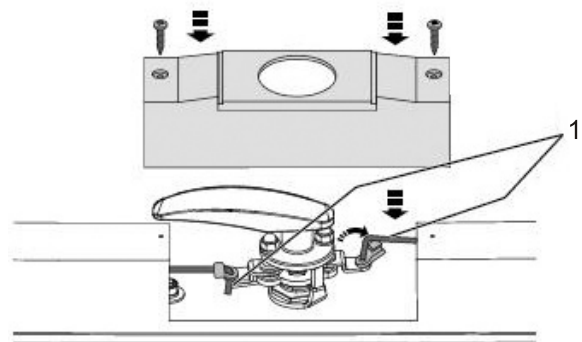

Figure 11
4. Clip the pull rods into the retainer clips (1). Check with the latch covers removed and manually closing each of the rotary latches. Adjust the pull rods until both latches can be heard to operate simultaneously. Close the door and re-check the door handle locks with the key. When pulled, the door handle should now only unlatch the door when the key unlocks it. Then replace the interior lock covers x3 and screws x4. Add the canopy keys to the customer's vehicle keys. Refer to figure 11.